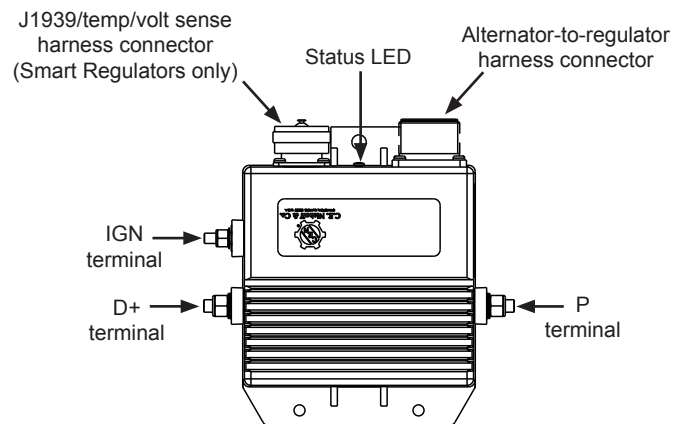

Figure 7: Regulator Connections
3. Plug alternator-to-regulator harness into receptacle on regulator. See Figure 7 for receptacle location. If remote mounting regulator, use a CEN extension harness¹. Extension harness supplied separately.
4. Refer to Figure 7 and connect regulator terminals as required by vehicle:
5. If using a J1939/temperature-voltage sense harness, plug J1939 harness into J1939 receptacle on regulator. See Figure 7 for receptacle location. Reference CEN document II184 for harness installation instructions. Harness sold separately².